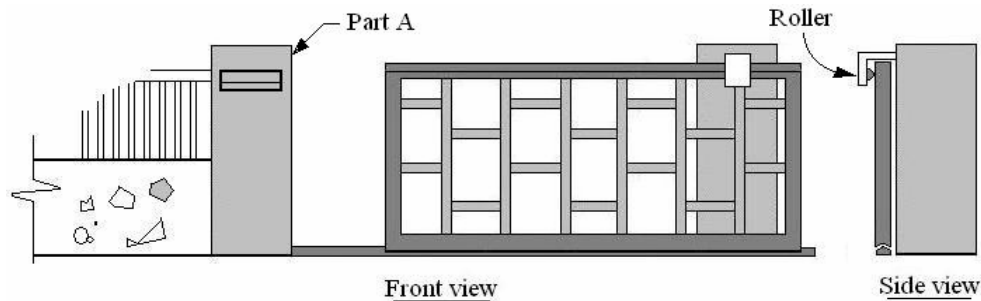

Figure 7
7. Figure 7 shows a sliding gate made of mild steel and concrete wall of a house. Below are the brief explanations of the gate: